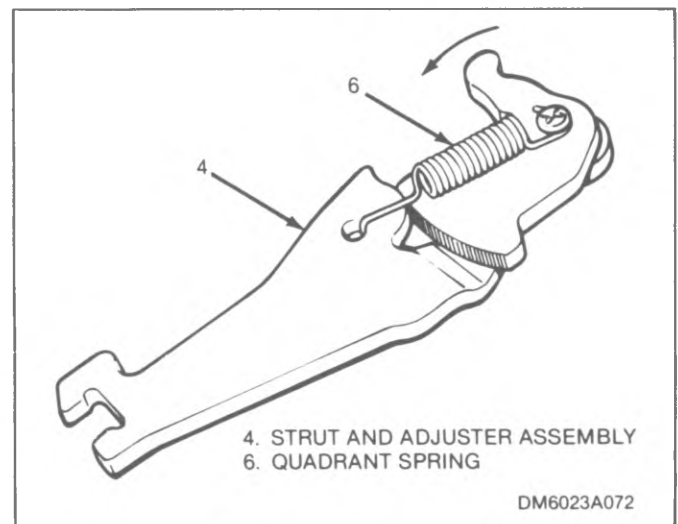

Figure 4-28. Setting Adjuster For New Shoes
12. Attach parking brake lever (8) to trailing shoe (10) with retainer (7).
13. If new shoes are being installed, pivot adjuster on strut and adjuster assembly (4) as far as it will go in the direction shown in figure 4-28.